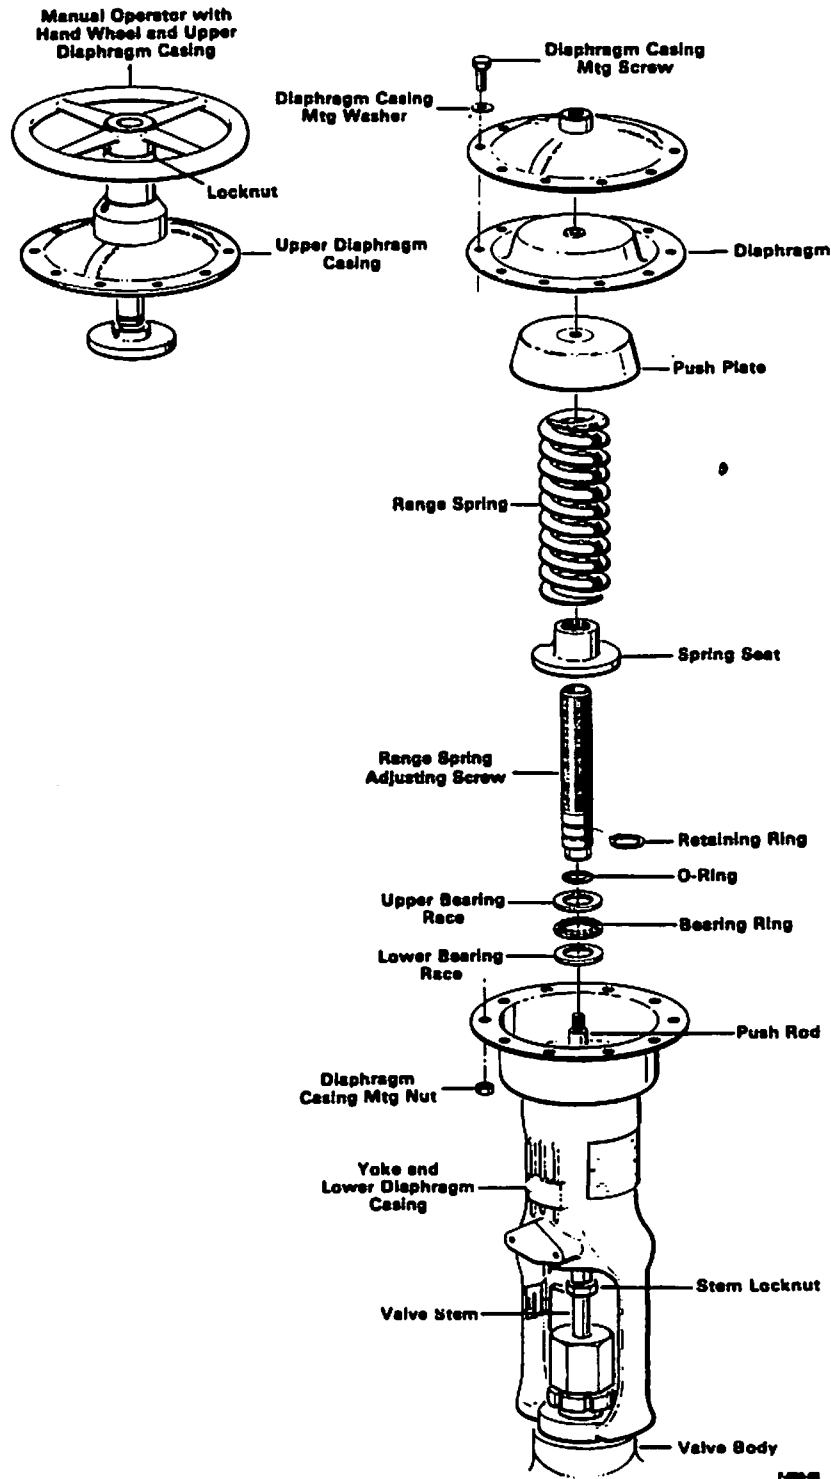

Figure 22. Exploded View of Air-to-Lower Actuator
4. Loosen and remove all diaphragm casing mounting screws, nuts and washers, Figure 22.
5. Loosen and remove all diaphragm casing mounting screws, nuts and washers, Figure 22.
4. Loosen and remove all diaphragm casing mounting screws, nuts and washer, Figure 22.